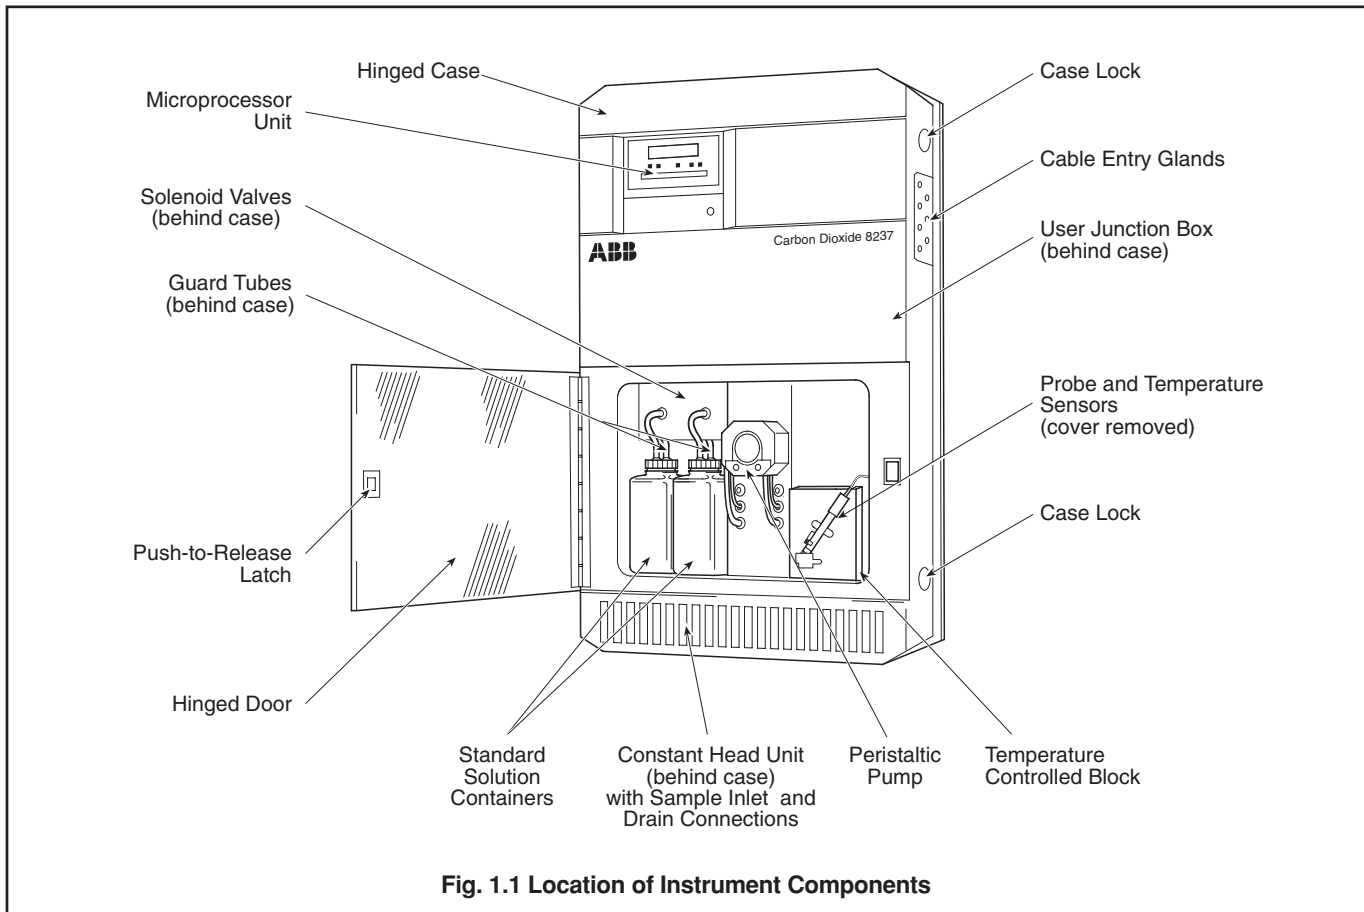

Fig. 1.1 Location of Instrument Components
1.3 Location and Function of Main Components – Fig. 1.1